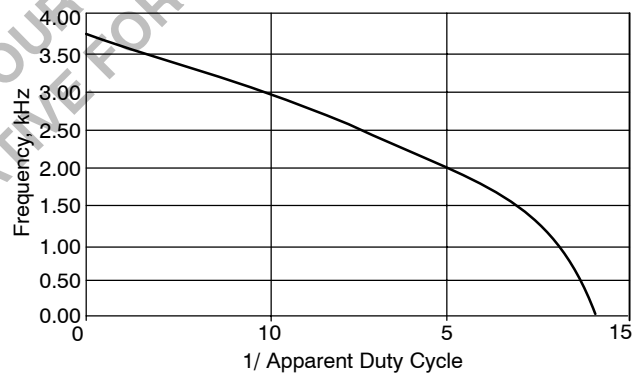

Figure 16. Normalized Input Filter Capacitor Ripple Current
- Calculate Input Filter Capacitor Ripple Current. Use the chart in Figure 16 to calculate the normalized ripple current ( $K_{RMS}$ ) based on the reciprocal of Apparent Duty Cycle. Then multiply the input current by  $K_{RMS}$  to obtain the Input Filter Capacitor Ripple Current.